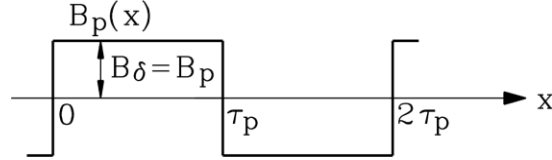

Fig. 26-2: No-load permanent magnet air gap flux density curve at 100% pole coverage ratio of magnets
2) *FOURIER* analysis leads to fundamental harmonic of a rectangular field curve of Fig. 26-2: